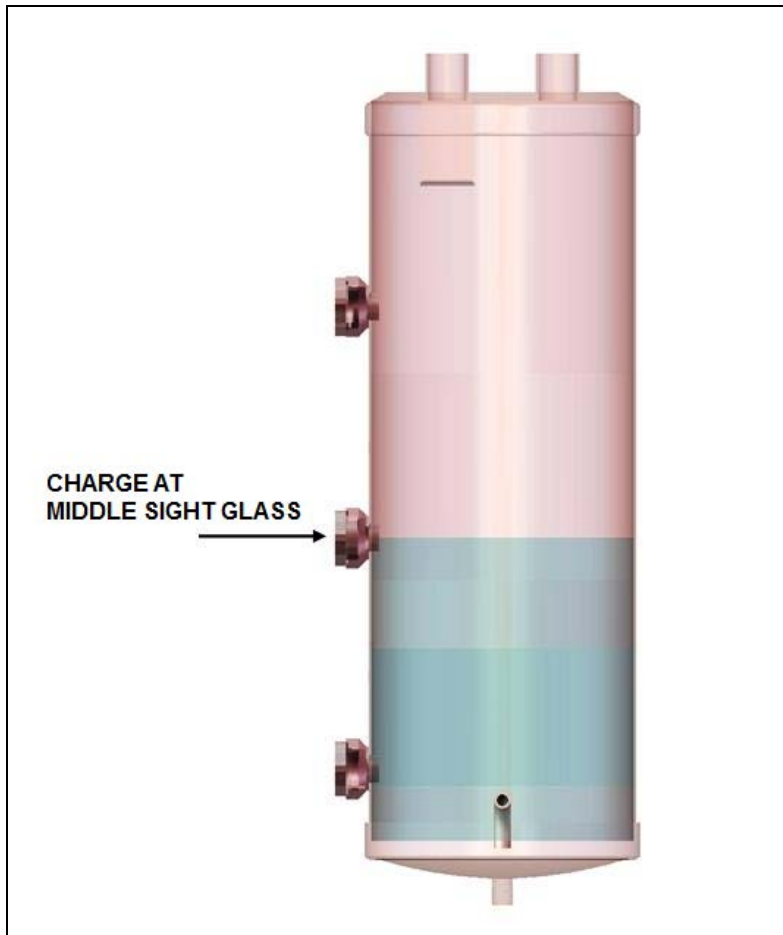

Figure 27. Charge at Middle Sight Glass
5. Adding liquid refrigerant will raise the liquid level in the ACC. Continue to add liquid refrigerant to the system until the liquid level has reached the middle sight glass, as shown in Figure 27.
6. **When the liquid level is at the middle sight glass, as shown in Figure 27, turn the refrigerant container valve OFF.**